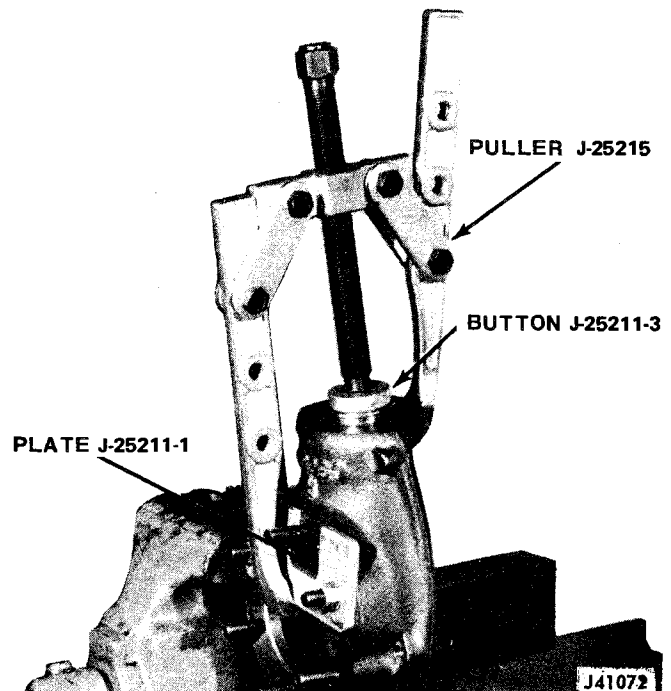

Fig. 2F-8 Lower Ball Stud Removal
(5) Assemble and install Puller J-25215 on steering knuckle (fig. 2F-8). Hook one puller arm in Plate J-25211-1 and hook opposite arm in knuckle.